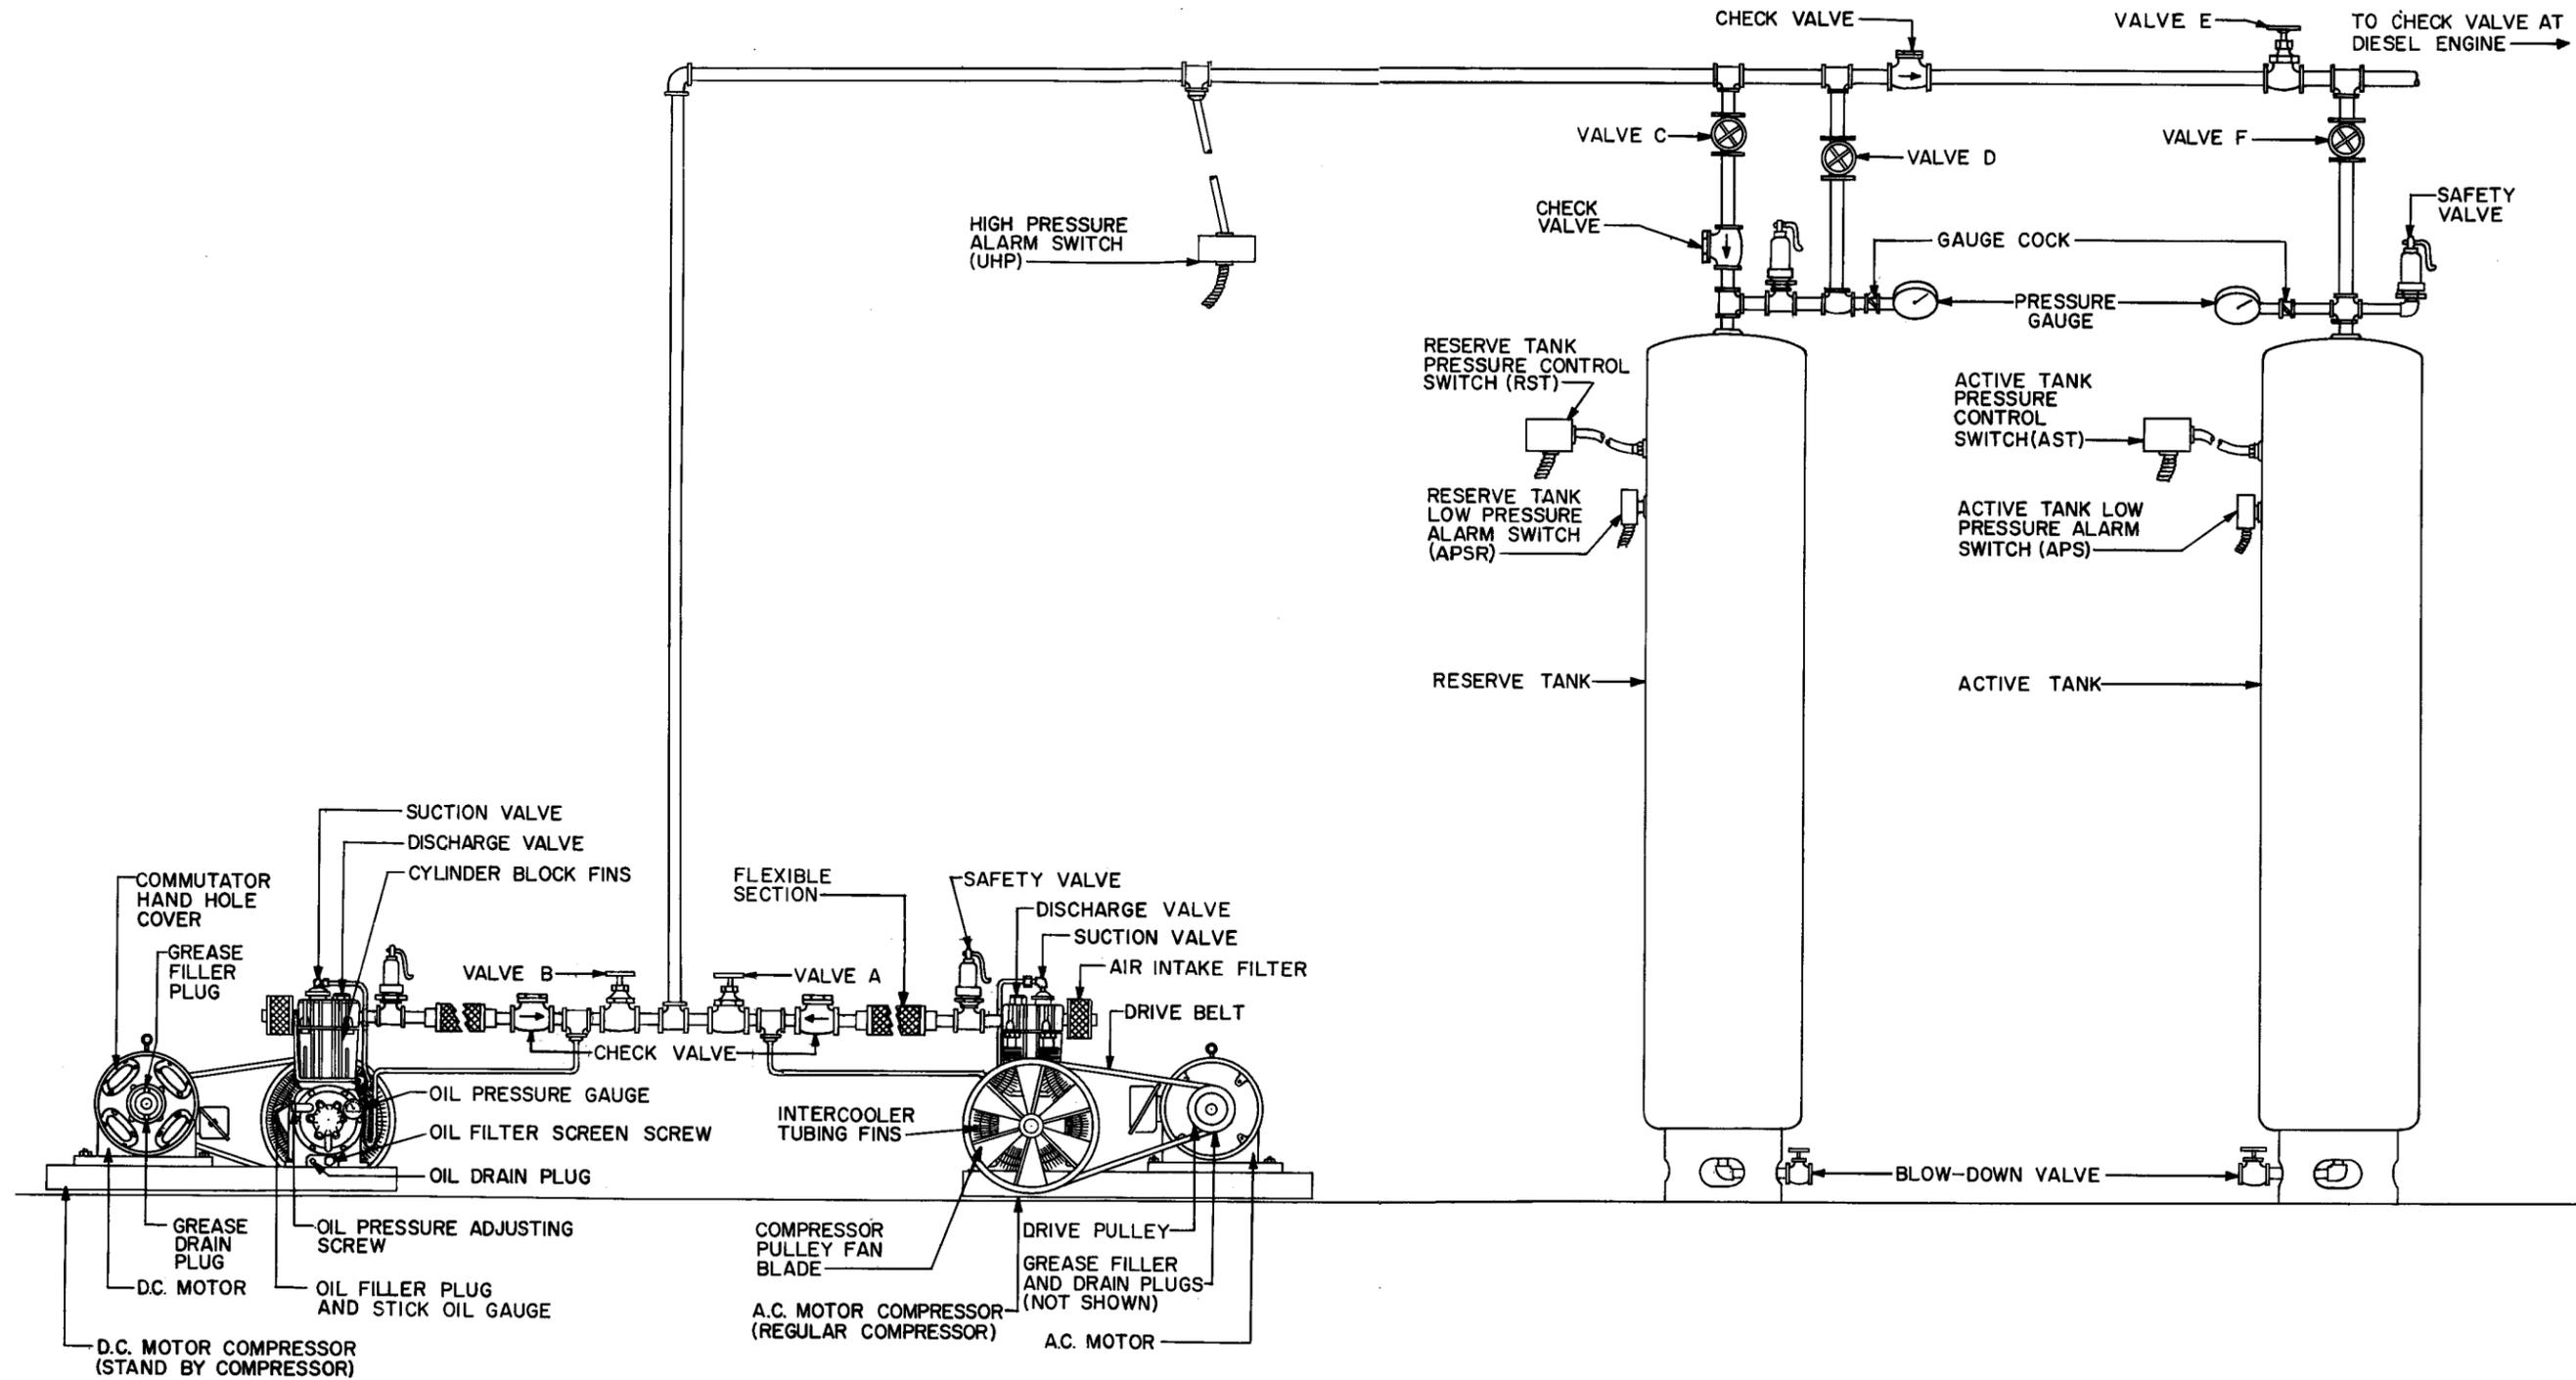

Fig. 1 - Air-Starting Equipment - AC and DC Motor Air Compressors and Associated Tanks (KS-15777, L51 air-starting equipment shown)
2.01 The KS-15777, L51 and KS-15899, L1 air-starting equipments include a 10-cfm air compressor driven by a 2-hp, 220-volt, 3-phase, 60-cycle ac motor, a stand-by air compressor of the same capacity driven by a 2-hp, 48-volt dc motor, and the associated air storage tanks. The arrangement of the equipment is shown in Fig. 1.
2.03 When the air-starting equipments are used to start more than one diesel engine, an additional active tank is provided for each additional engine. Each additional active tank (KS-15777, L53 or KS-15899, L53 tank) has the same associated equipment as the active tank shown in Fig. 1. The same operating methods apply to the equipment associated with each active tank.
2.04 Normal operation of the air-starting equipment is fully automatic with the ac motor-compressor maintaining the air pressure in the tanks between 195 and 255 psi. Starting with 250 psi air pressure, each tank can make at least six normal engine starts without recharging. Pressure changes in the tanks control the ac motor-compressor which can also be operated manually by the HAND-OFF-AUTO switch on the ac motor-starter. The dc motor-compressor is manually operated by START and STOP buttons. Each compressor and tank has its own safety valve, check valve, and hand valve as shown in Fig. 1. Each tank also has a pressure gauge, a pressure control switch, and a low-pressure alarm switch. A high-pressure alarm switch is connected to the airline between the compressors and the tanks.
- (f) Valves A, B, C, E, and F are open and valve D is closed (Fig. 1).